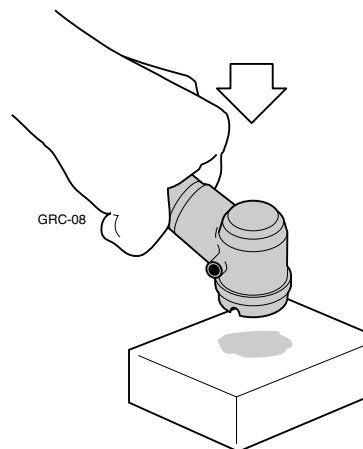

Figure 11.21 Removing the 250 inner bearing.
- Pre-heat the gearcase with a heat gun to approximately 212°F (100°C). Remove the inner bearing by tapping the gearcase sharply against a flat wooden surface (Figure 11.21).